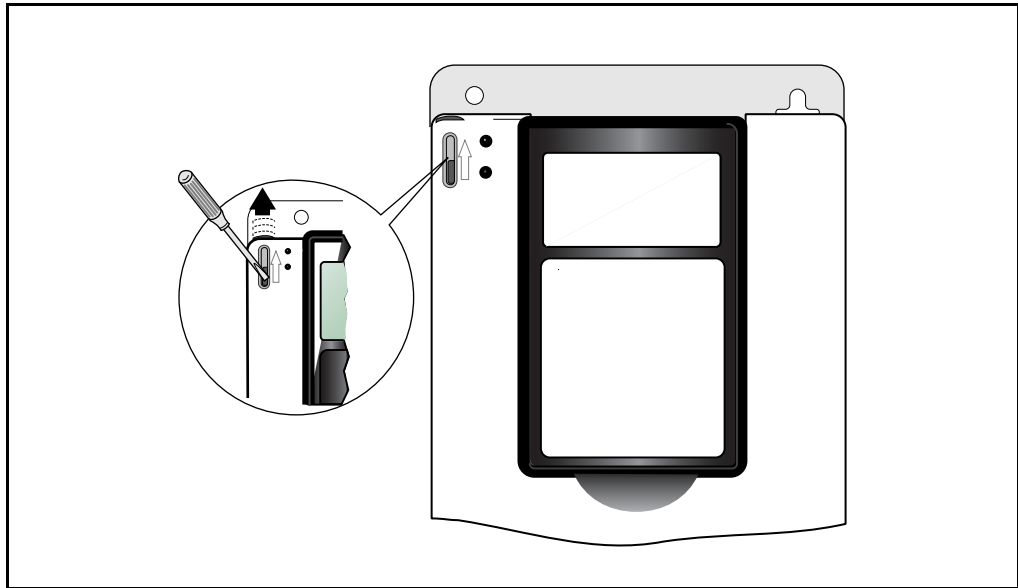

Figure 5.1 – Opening the Drive Cover
- Step 1. Locate the slot in the upper left hand corner of the drive (see figure 5.1).